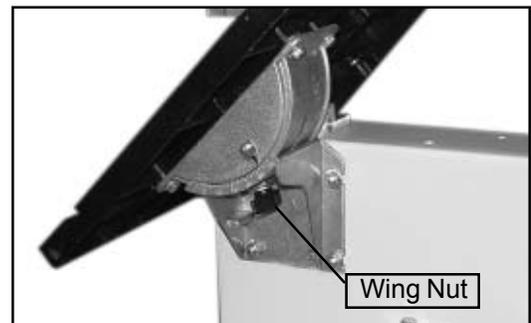

Fig.14
- a. To tilt, loosen the wing nut on the table trunnion, set table to the required angle and tighten the wing nut again. (See Fig. 14)